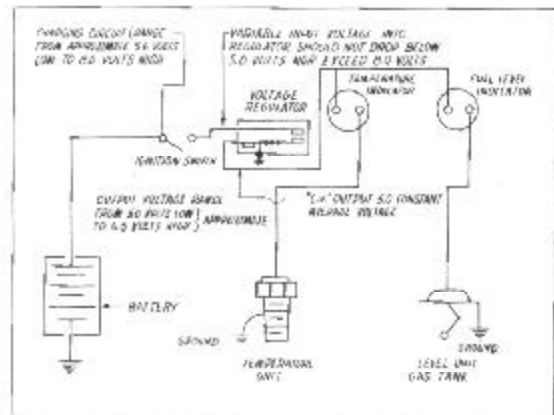

FIGURE 87
The constant voltage regulator is common to both the fuel and temperature system, in that one regulator is used to operate both systems, Figure 87.
2. Hook in a new tank unit of proper calibration. See Figure 87. Place float in empty position. Turn on ignition switch. Panel gauge should read at (E) on dial.
3. Move float to full position, panel gauge should read full (F).